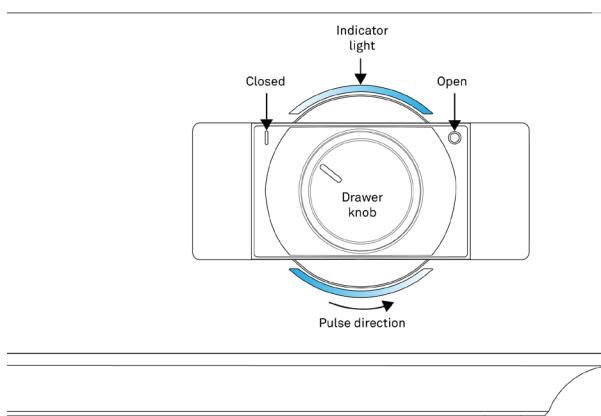

Figure 67 Front-panel drawer knob
- Turn the drawer knob counterclockwise (left) to the Closed position to begin the reading (Figure 67).